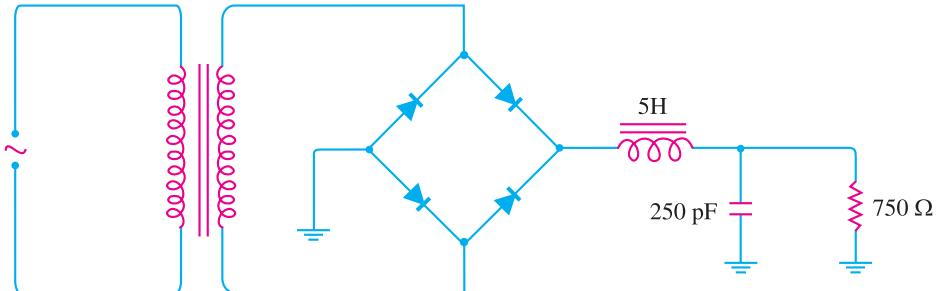

Fig. 6.45
**Example 6.24.** The choke of Fig. 6.45 has a d.c. resistance of  $25\Omega$ . What is the d.c. voltage if the full-wave signal into the choke has a peak value of  $25.7V$ ?